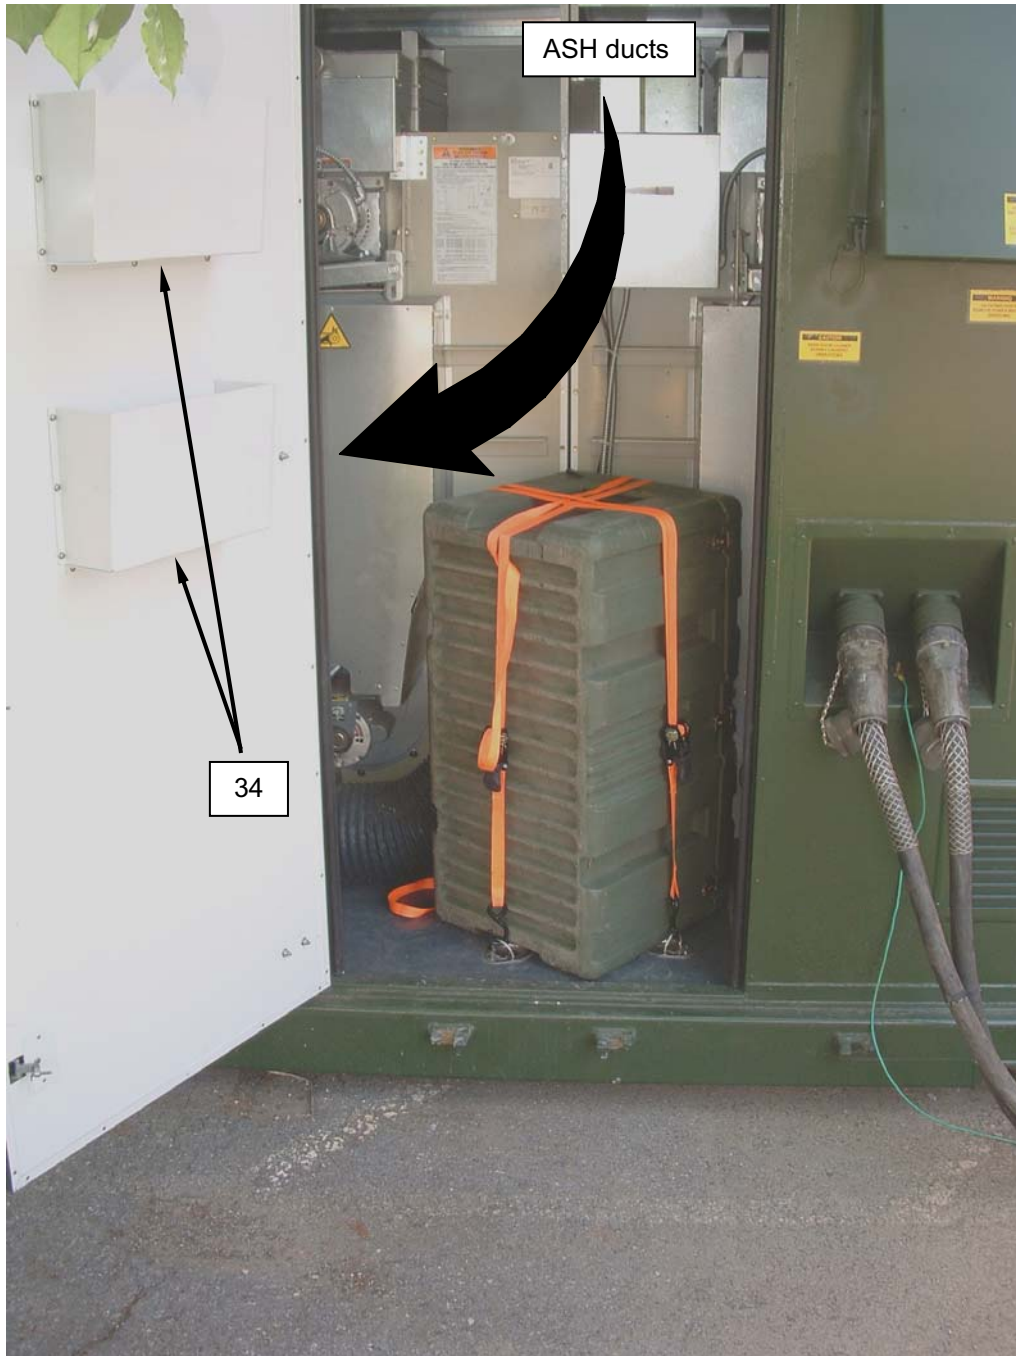

Figure 32. Placing the ASH Ducts and Technical Manuals.
47. Place the keys and TM's in the bins (Figure 32, Item 34) fitted to the personnel door.